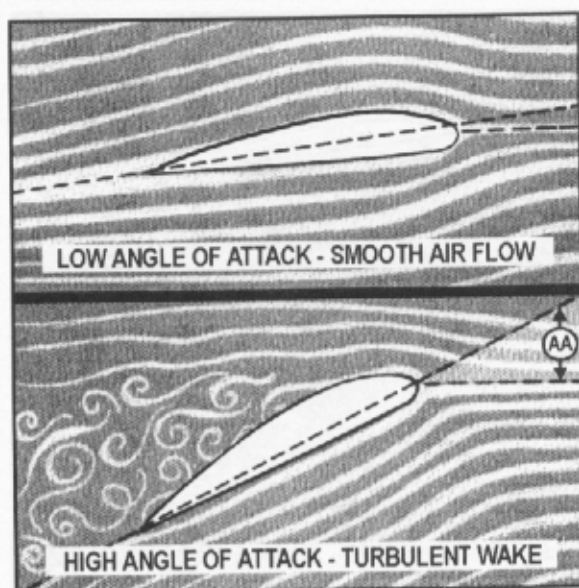

Figure 5.1. Angle of Attack (AOA).
5.2.1. Cause of Stall. Basically, there is one cause for a stall—exceeding the critical angle of attack (AOA). Remember, the AOA is the angle between the chord line and the relative wind. Figure 5.1 shows that a high AOA leads to airflow separation and the formation of a wake of turbulent air behind the wing. Separation begins at a certain AOA. A further increase in AOA will cause separation on most of the top surface of the wing.